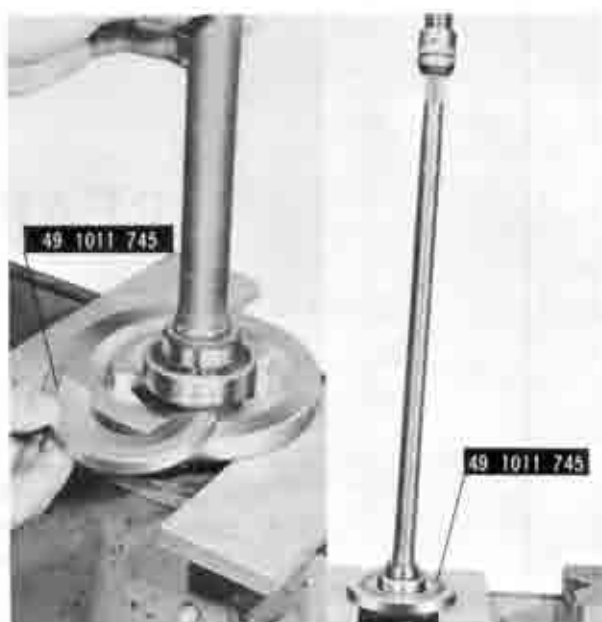

Fig. 9-3 Removing bearing and collar
2. Using the bearing remover set (49 1011 745), support the spacer and press the axle shaft out of the collar and bearing, as shown in Fig. 9-3.